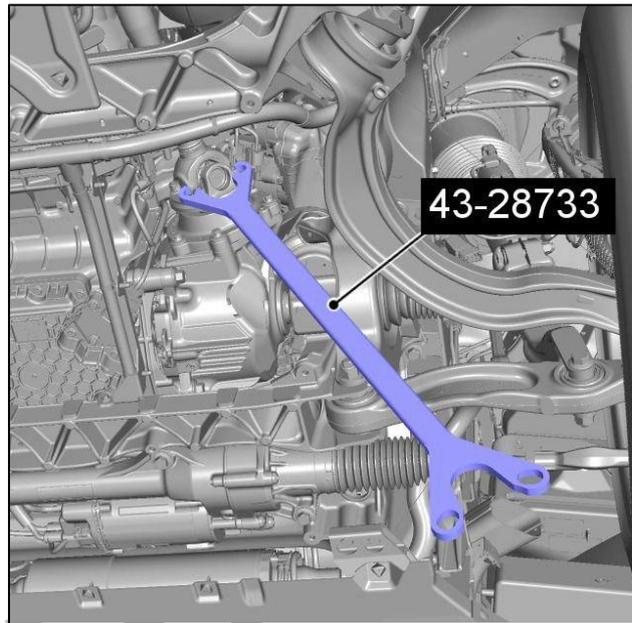

Figure 4
6. Use the Special Service Tool to hold the prop shaft (refer to Figure 4).